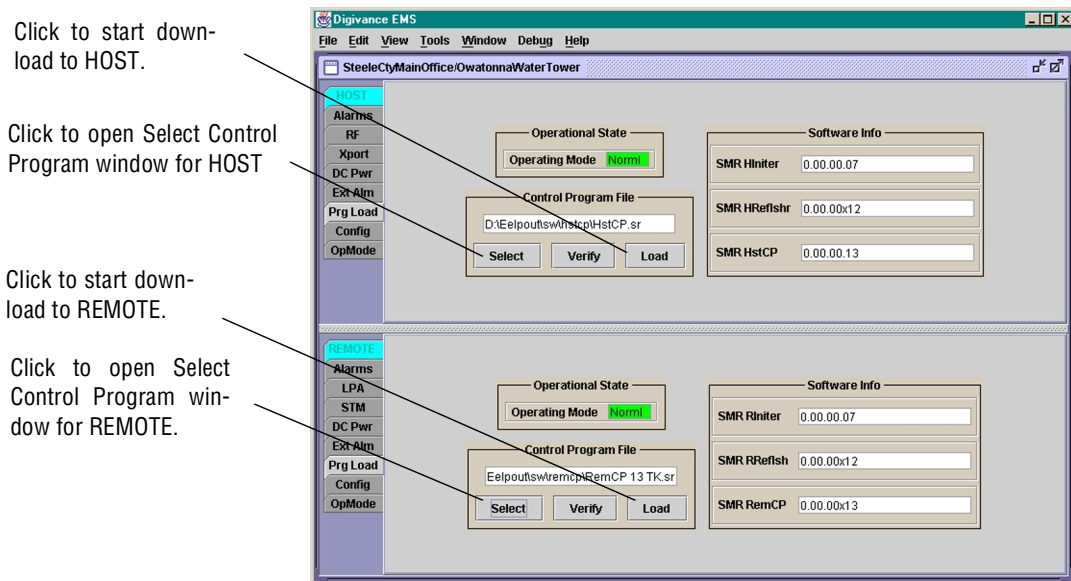
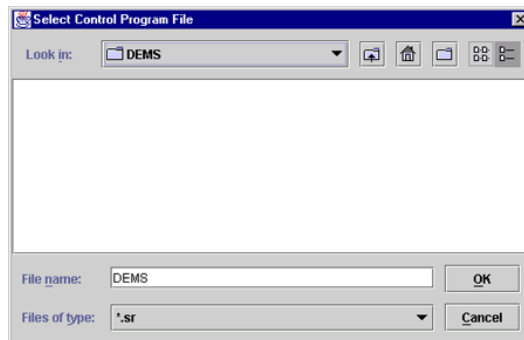

Figure 4-3. HOST and REMOTE Prg Load Displays
Figure 4-4. Select Control Program File Window
1. Click on the **HOST Prg Load** tab and on the **REMOTE Prg Load** tab. The **HOST Prg Load** display and the **Remote Prg Load** display will open within the EMS main window as shown in Figure 4-3.
2. Click on the **HOST Select** button (see Figure 4-3). The **Select Control Program File** window will open as shown in Figure 4-4. Browse until the folder where the Control Program files are located is selected and the software files are displayed in the window.
4. Click on the **HOST Load** button (see Figure 4-3) to start the download.